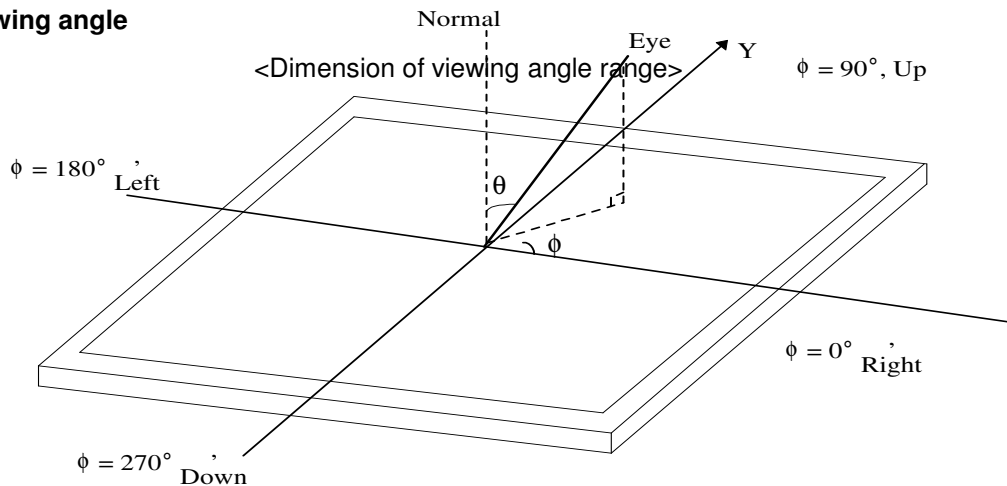

**FIG. 3 Response Time**
4. Response time is the time required for the display to transition from white to black (rise time, TrR) and from black to white(Decay Time, TrD). For additional information see FIG 3.